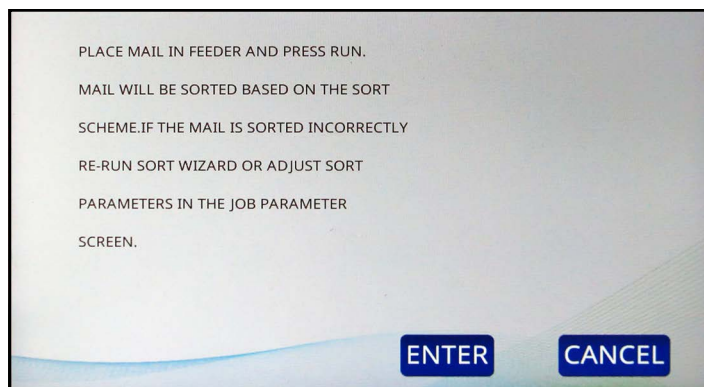

Figure 6-26: Informational screen
10. Again, you will be prompted to place your mail samples onto the feeder (Figure 6-26). This time the run is to include both your primary and secondary mail.